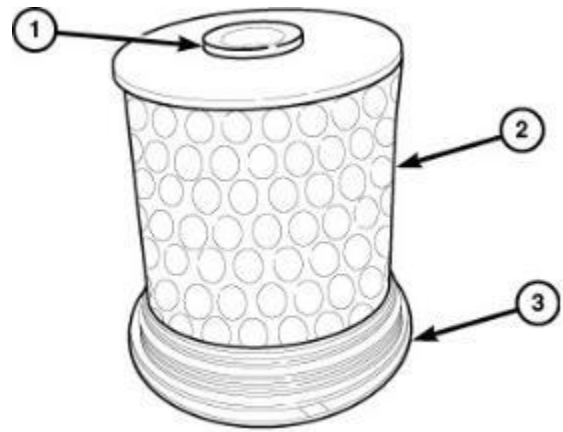

Figure 61 – Filter Seal
- 106. Position and push down on **NEW** fuel filters (2) to install filter onto the cover (3) (Figure 61).
- 107. Lubricate the rubber seal (1) with clean diesel fluid (Figure 61).